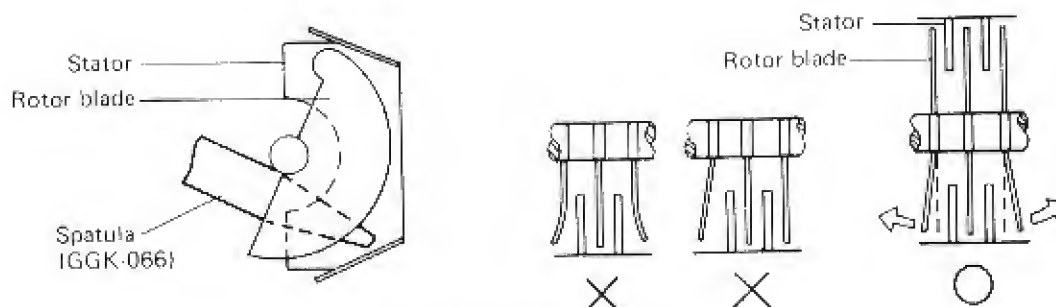

Fig. 8-3 Tuning capacitor adjustment
- The tuning coils in the FM front end does not have an adjusting core. Consequently, tracking adjustments at 90MHz are performed by regulating the gap between rotor and stator of the tuning capacitors (VC1, VC2, VC3). The expression "adjust VC" found in the text means that the two outer rotor blades of each of these tuning capacitors are to be extended outwards with spatula (Part No. GGGK-066) as shown in Fig. 8-3.